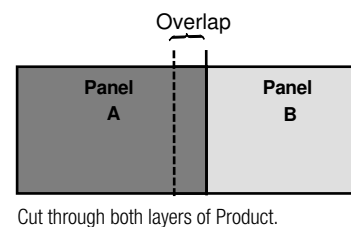

Figure 9. Creating a double cut seam
2. On the Product side where the seam will be, leave 1 inch (2.5 cm) of Product liner on the side of Panel A. See Figure 9, "Creating a double cut seam," on page 10.